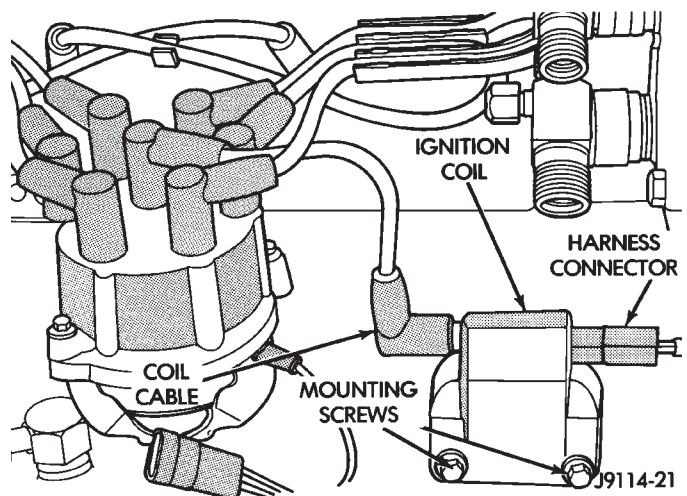

Fig. 16 Ignition Coil—Typical (4.0L Shown)
On the 4.0L 6-cylinder engine, the ignition coil is mounted to a bracket on the side of the engine (to the front of the distributor) (Fig. 16).
(1) Disconnect the ignition coil secondary cable from ignition coil (Fig. 16).
(2) Disconnect engine harness connector from ignition coil.
(3) Remove ignition coil mounting bolts (nuts are used on back side of bracket). Remove coil.